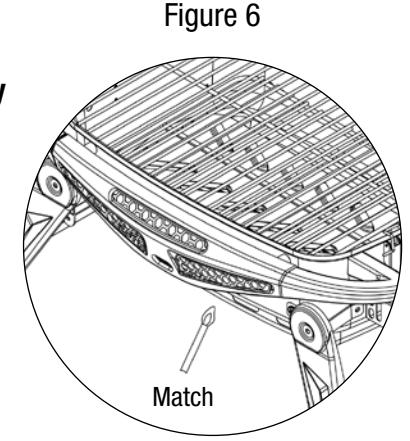

Figure 6
- a. Access the burner through the hole in bottom bowl or side as indicated (Figure 6).